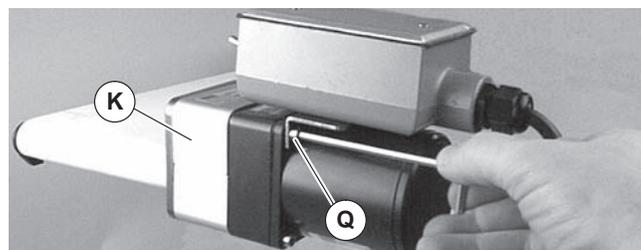

Figure 8
- Insert top cover (Figure 8, item K) into bottom cover. Attach top cover with two (2) top screws (Q). Tighten to 45 in-lb (5 Nm).